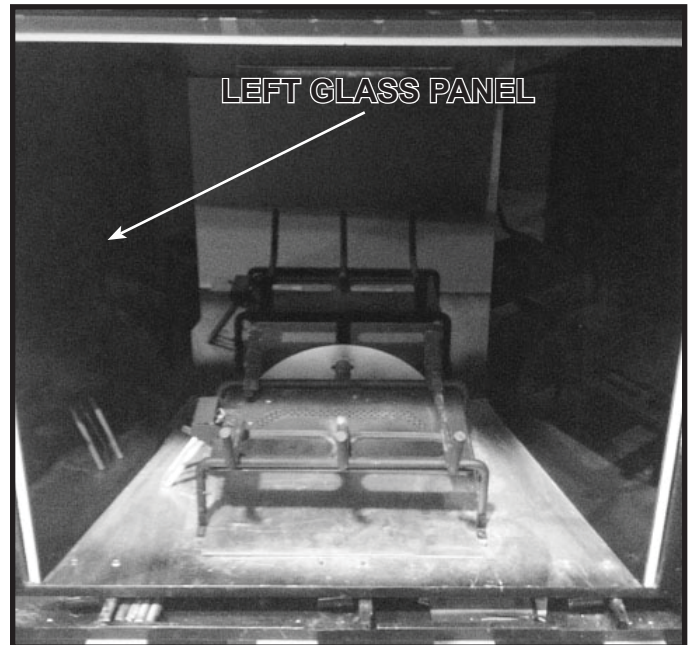

Figure 9. Left Glass Panel
8. Install the left glass panel by inserting it in the location shown in Figure 9. Slide the glass rearward until it contacts the rear glass panel.